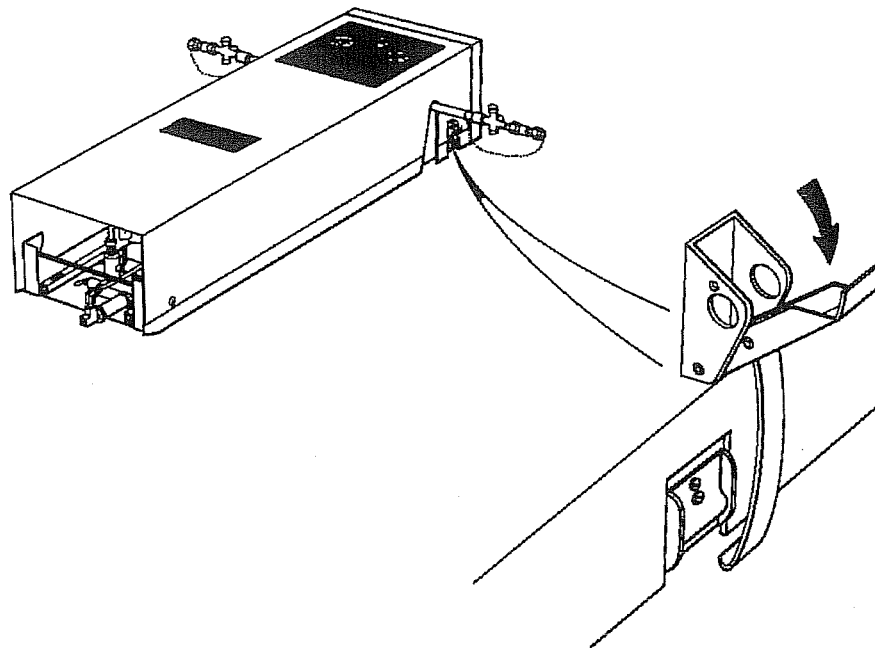

Figure 2-5
3. Release the latches at the top of the manifold cover (1 latch each side). (Figure 2-5)